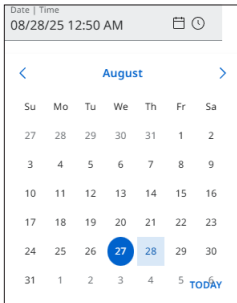

Figure 48. Setting the Date
3. Click **TODAY** to use the current date or select a date from the calendar. You can also change the month using the back and forward arrows (see figure 48 < and >).